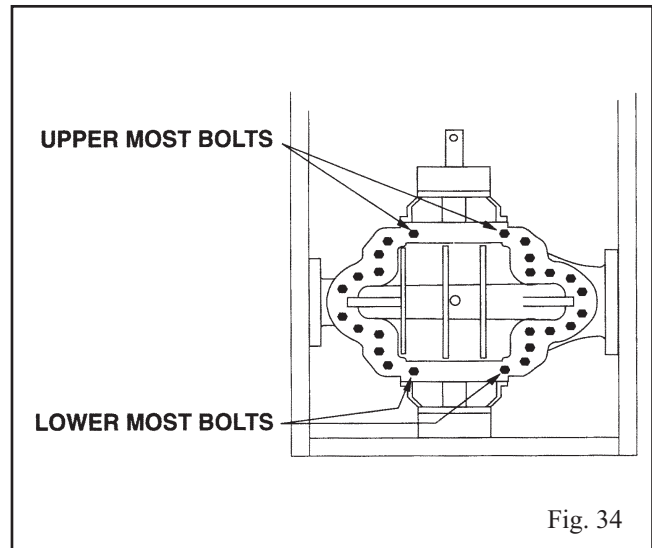

Fig. 34
4. Remove dowel pins and all parting line bolts except for two upper most and two lower most (See Fig. 34) Install alignment rods (see Fig. 33) through upper half and into tapped bottom half, one on suction side and one on discharge side above horizontal centerline of casing.